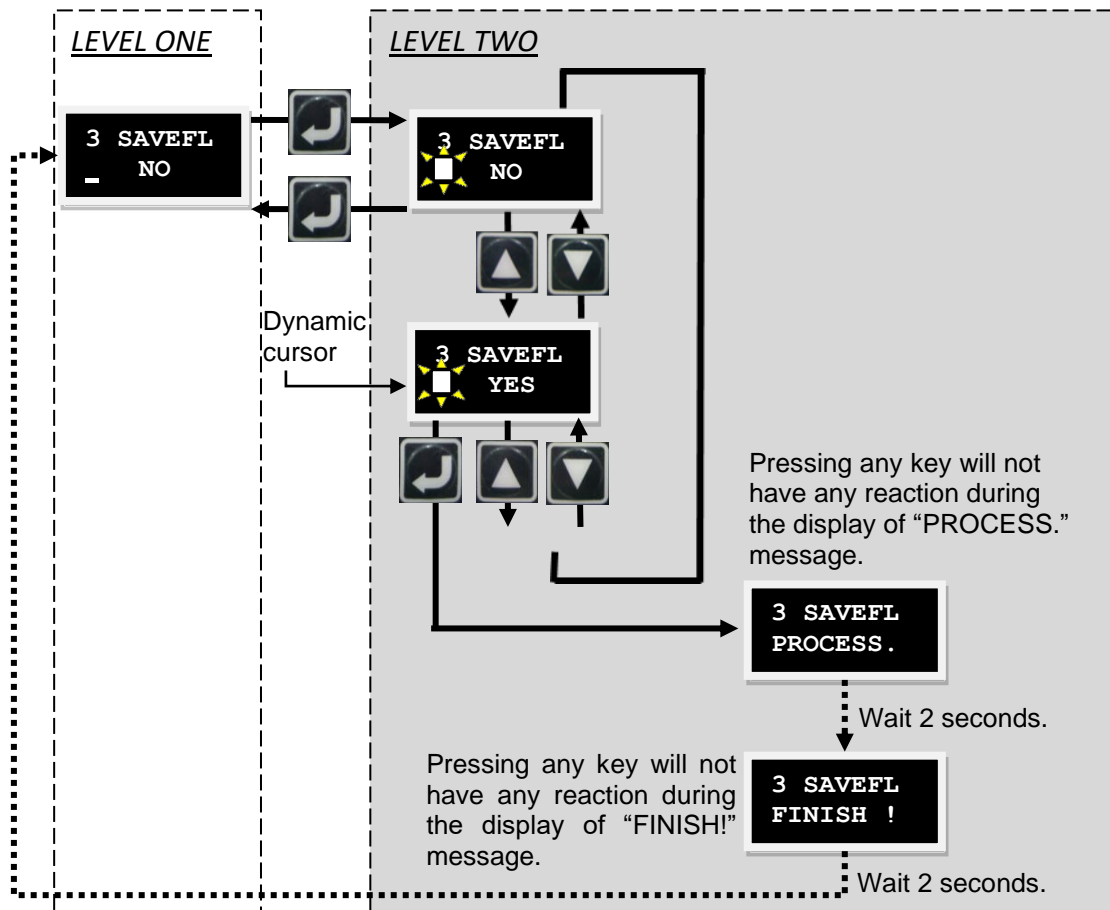

Figure7.5.1.1 “Save to Flash” operation
- Step 3: When the servo is disabled, the “PROCESS.” message will be displayed on the screen after pressing the Enter key. This indicates that parameters are being saved to Flash. The “FINISH!” message will be displayed after the “Save” procedure is completed. The operation flow chart is given in figure 7.5.1.1. When the servo is enabled, pressing the Enter key will also do the same steps described in figure 7.5.1.1, but the motor will be disabled.